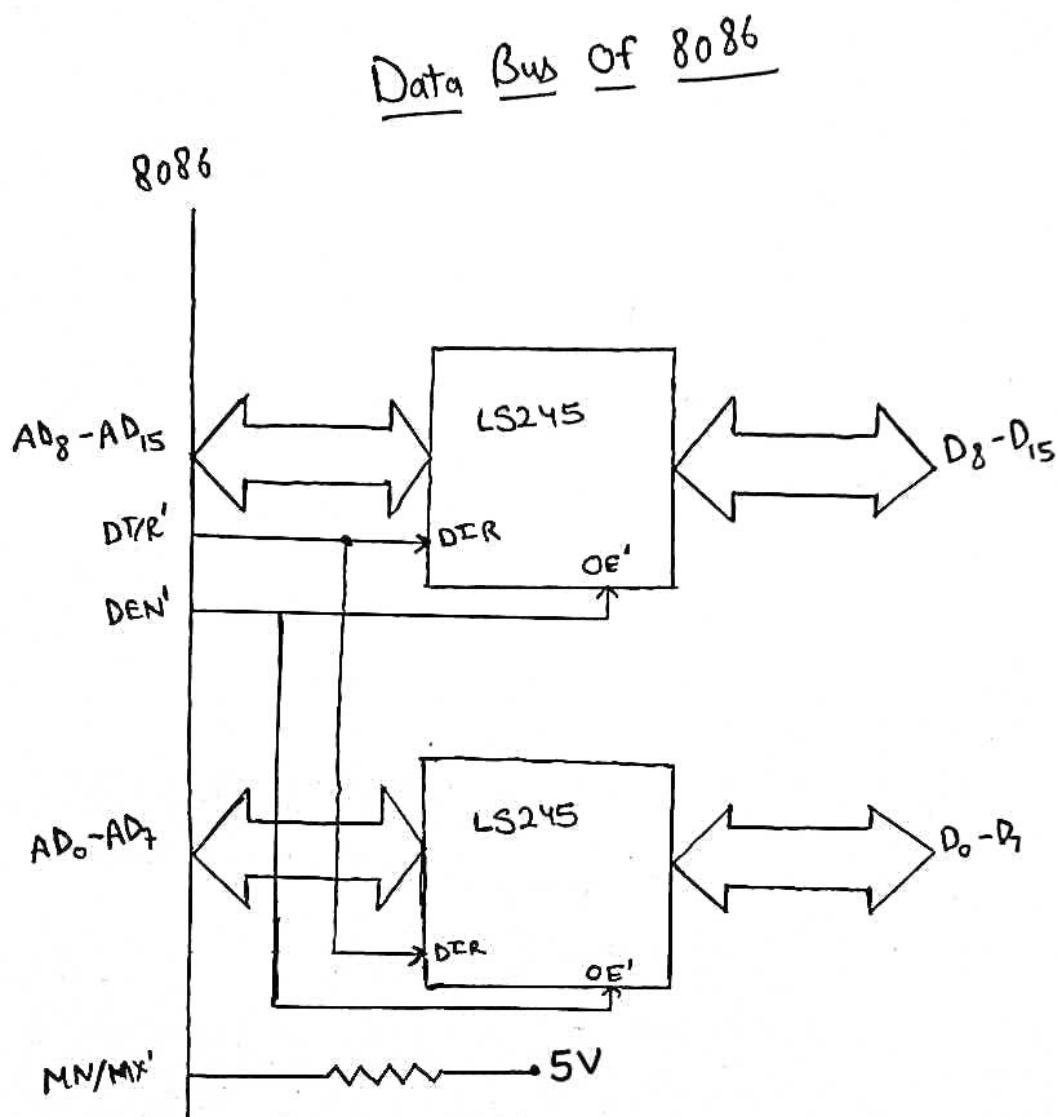

Fig 19.13
4. Data Bus of 8086	(Fig 19.13)